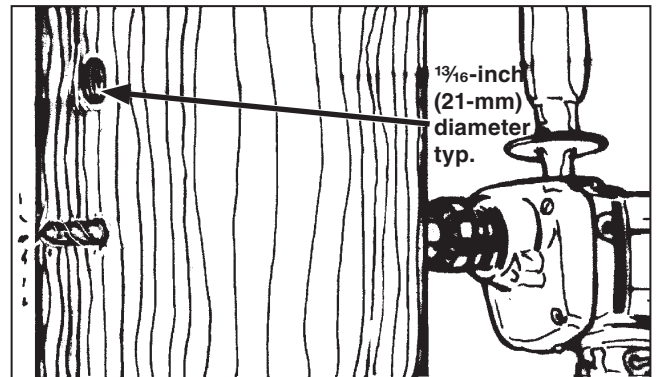

Figure 3. Drilling holes for switch-mounting bracket.
**STEP 1.** Drill two  $\frac{1}{16}$ -inch (21-mm) diameter holes through the utility pole as shown, at the desired height for mounting the switch. See Figure 3. Refer to the erection drawing (ED).